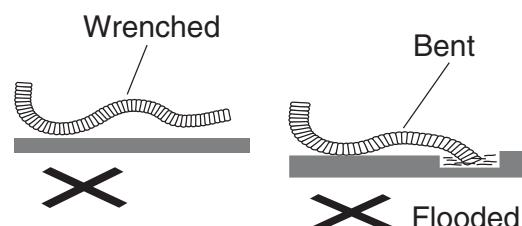

Fig.14
- Do not wrench, bend or heave the drainage hose or flood its end by water. (Fig.14)